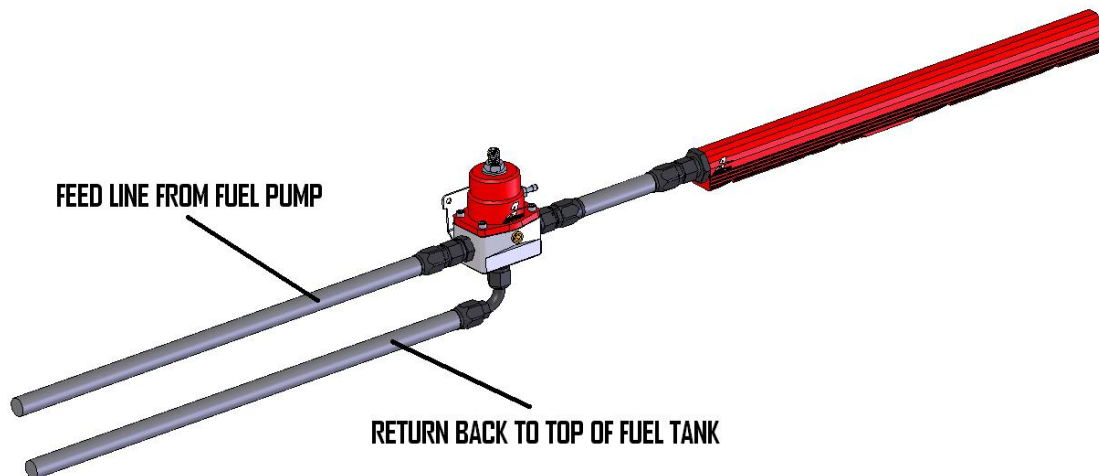

FIGURE 1-1
9. Figure 1-1 depicts a fuel rail with only one fuel line connection, such as used in late model "returnless" fuel systems beginning in 1999. Positioning the regulator after the fuel rail is optimum for performance applications, however your new Aeromotive regulator may be configured for a "returnless" type of engine/fuel rail by flowing into one of the regulator side ports from the pump and out of the opposite side port into the fuel rail. A return line must be routed from the regulator bottom/return port back to the top of the fuel tank.